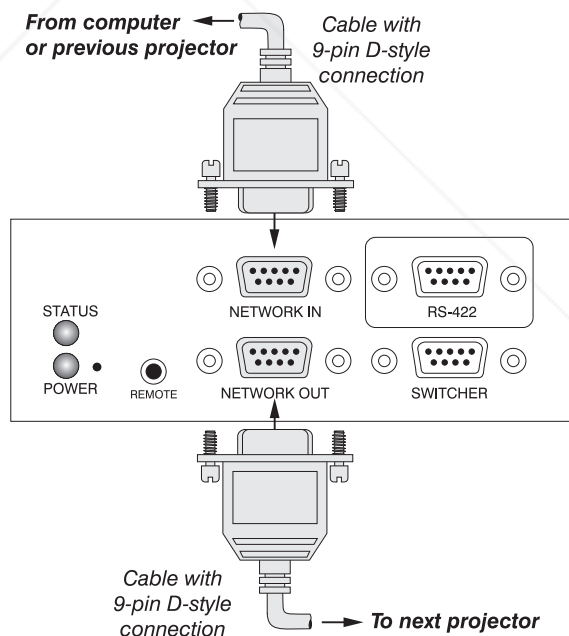

Figure 2-18. Adding Another Projector
- If using multiple projectors** ➤ To control multiple projectors with a computer/controller, chain the projectors together by connecting the "NETWORK OUT" connector of the first projector (already connected to the computer/controller) to the "NETWORK IN" connector of the next projector in the chain (Figure 2-18).